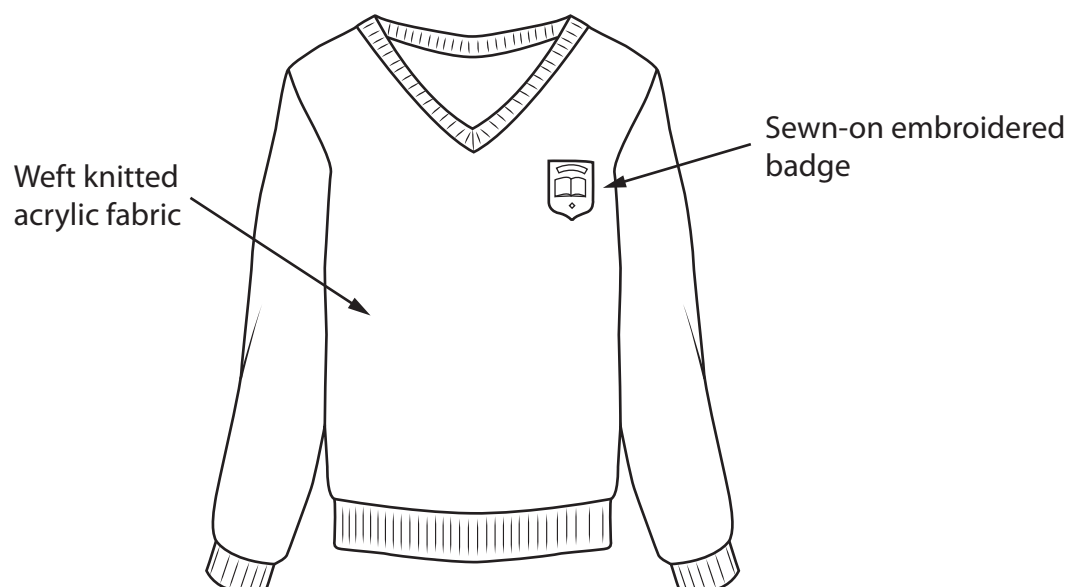

Figure 17
- 8 Figure 17 shows a school jumper manufactured from a weft knitted acrylic fabric.